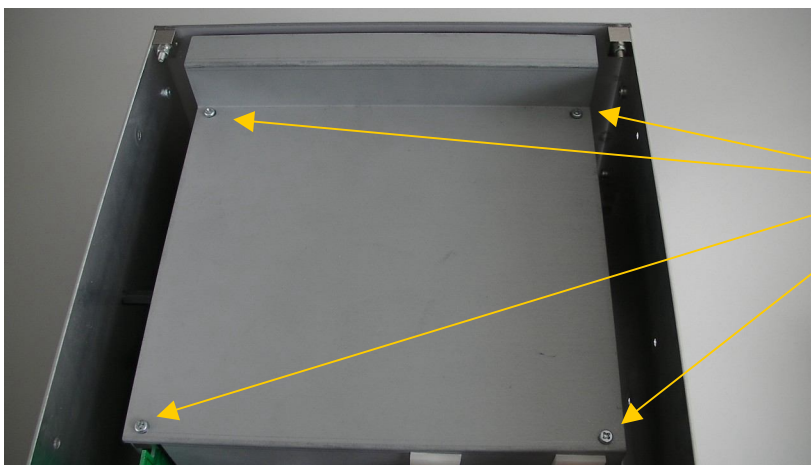
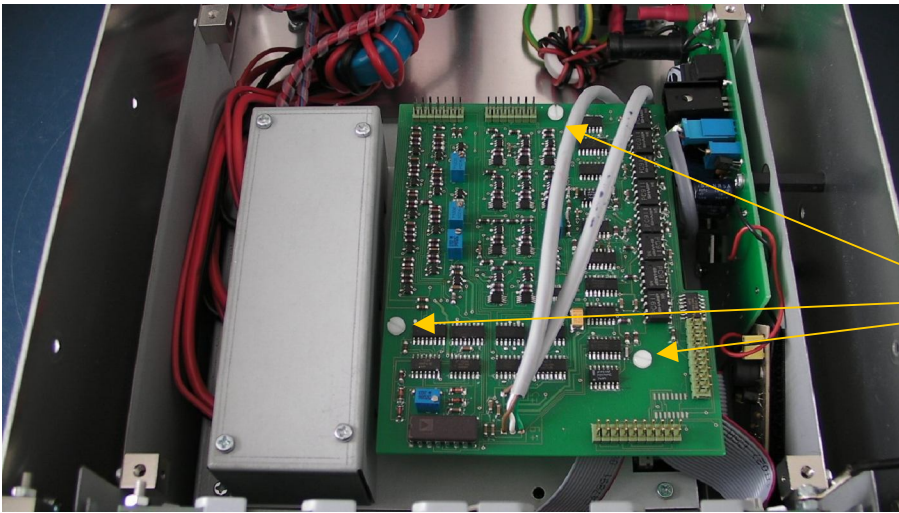

Figure 8.1
Figure 8.2
- STEP 3: Remove 4 screws from the top of the inner case as shown in Figure 8.1. Lift up the top of the inner case. If no analog input-output board is installed, you can see the EPROM along the right hand side panel. If you cannot see the EPROM proceed with step 4.
- STEP 4: Your Power Analyzer has installed the analog input-output board. To gain access to the EPROM remove the 3 Nylon screws as shown in Figure 8.2. Shift the analog input-output board to the side (without disconnecting any connectors). Use a pair of bent pincers to remove the EPROM and install the new one. Reinstall the analog input-output board in place (using 3 screws).
STEP 5: Put the top of the inner case in place. The back side of the top of the inner case must overlap the bottom of the inner case on its inside (towards the front panel). Install 4 screws on each corner (Figure 8.1). Finally, install the hood with 6 screws (3 on each side panel).
STEP 3: Loosen 4 screws (Figure 8.1) from the top of the inner case and remove the top.
STEP 4: In case the Power Analyzer to be calibrated has the analog input-output board installed you must also remove the 3 Nylon screws (Figure 8.2), which hold the board.
Remove the hood and **reinstall the calibration jumper**. Install 3 Nylon screws (Figure 8.2). Install 4 metal screws (Figure 8.1). Install hood and 3 screws on each side panel.